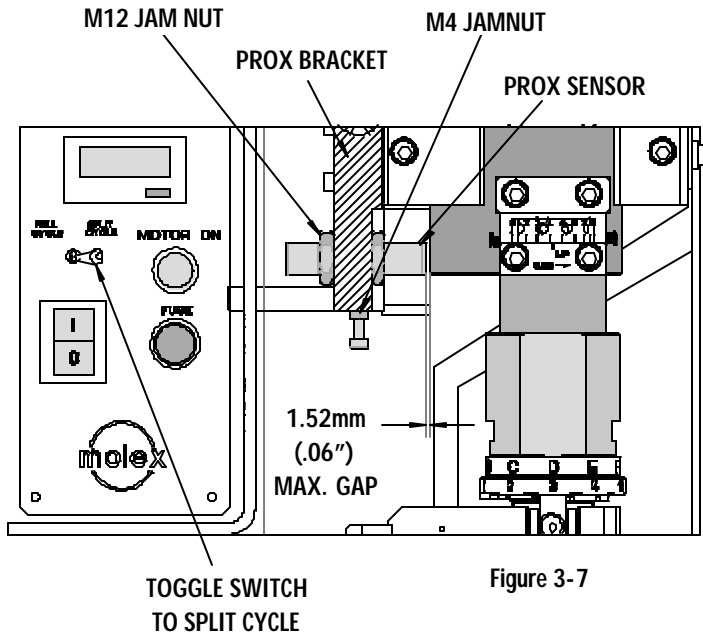

Figure 3-7
4. Loosen the two M12 jam nuts on the split cycle prox, located on both sides of the prox bracket. Then loosen the M4 jam nut holding the M4 X 25 SHCS. Turn the screw clockwise to raise the prox or counter-clockwise to lower the prox. See Figure 3-7. Raise the prox if the punch is partially crimping the terminal; or lower the prox if the ram is not closing far enough and not centering the terminal punch.
5. Retighten the M4 SHCS and the (2)M12 jam nuts positioning the prox for the 1st position of the split cycle. See Figure 3-7.
Note: The gap between the prox and the ram should be 1.52mm(.06") Max. See Figure 3-7.